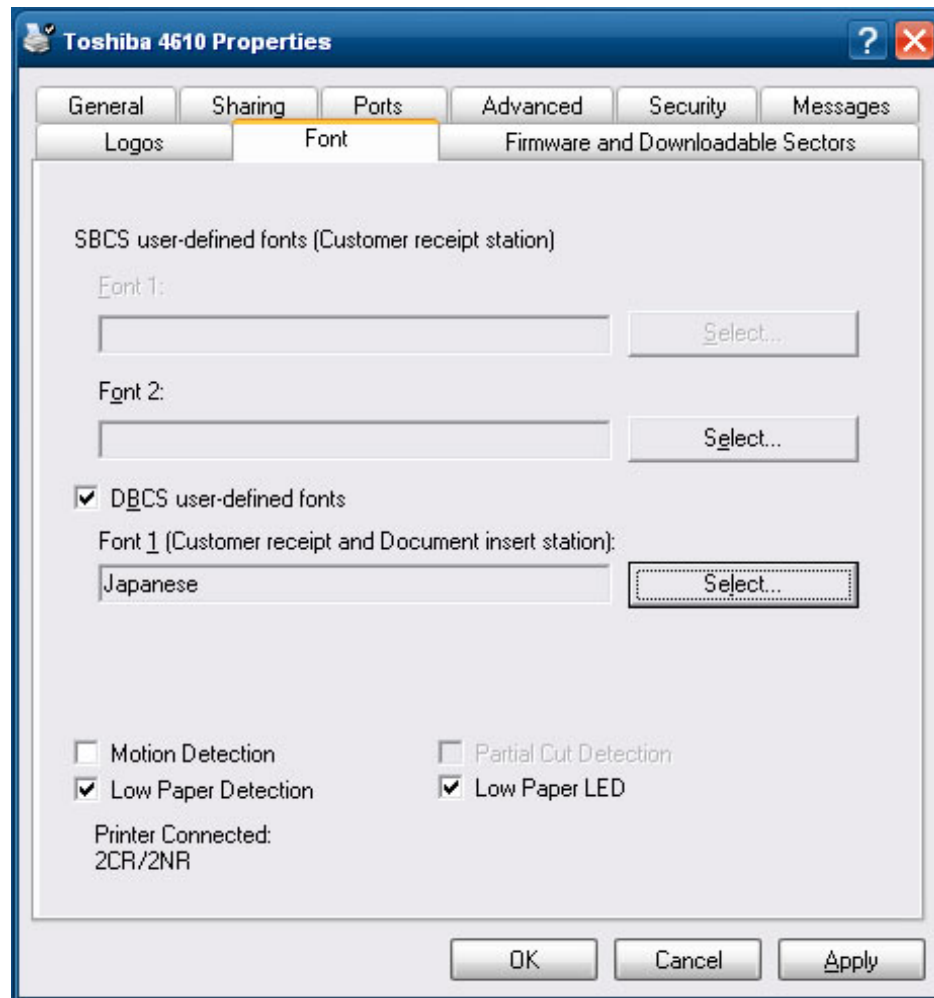

Figure 56. Properties Font Tab
7. Upon completion, the Properties Font Tab will contain the downloaded character set (see Figure 56).